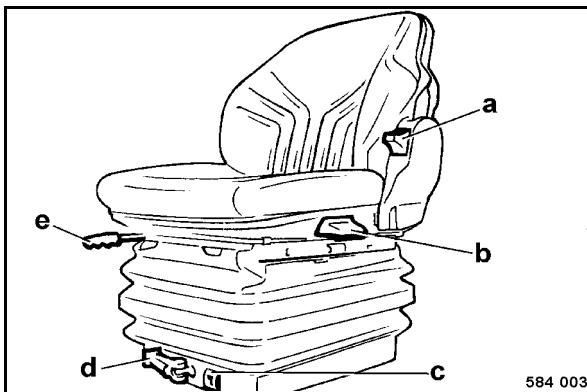

Fig. 72
- To adjust the seat in longitudinal direction disengage lever e (Fig. 72) upwards and push the seat forward or back.